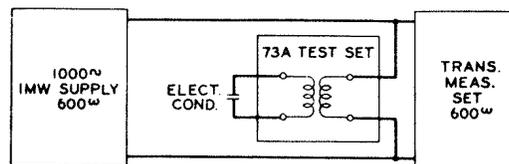

Fig. 2 - Schematic of Testing Circuit
2.01 As illustrated in Fig. 2, the No. 73A test set consists of a transformer which steps up the impedance of the condenser under test to values within which bridged transmission loss tests can be made with the No. 12A transmission measuring set. For example, when employing an impedance ratio of 500:1, the loss due to a condenser of about 1 ohm impedance will be about 4 db instead of 50 db which would result if the condenser were connected directly to the transmission measuring circuit without the coil of the No. 73A test set.